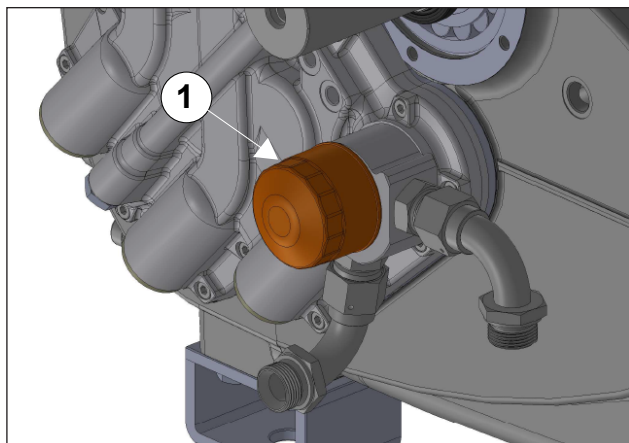

Fig. 132
Use LOX-EAL 53-14 fitting sealant or similar to smear on the fitting (pos. ①), pressure switch (pos. ②) and pressure gauge (pos. ③) Fig. 132, then assemble the unit.